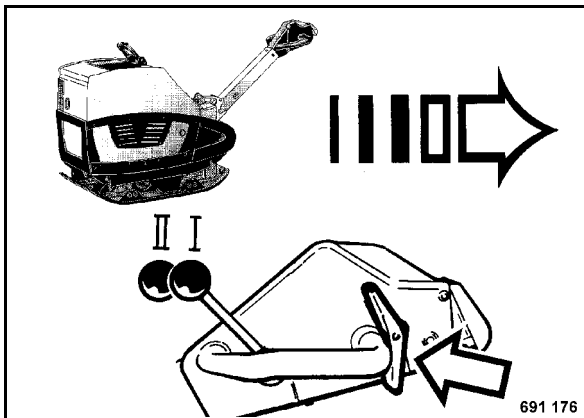

Fig. 32
- Press the upper part of the travel lever (tip switch) (Fig. 32), until the vibratory plate has reached the desired reverse travel speed.